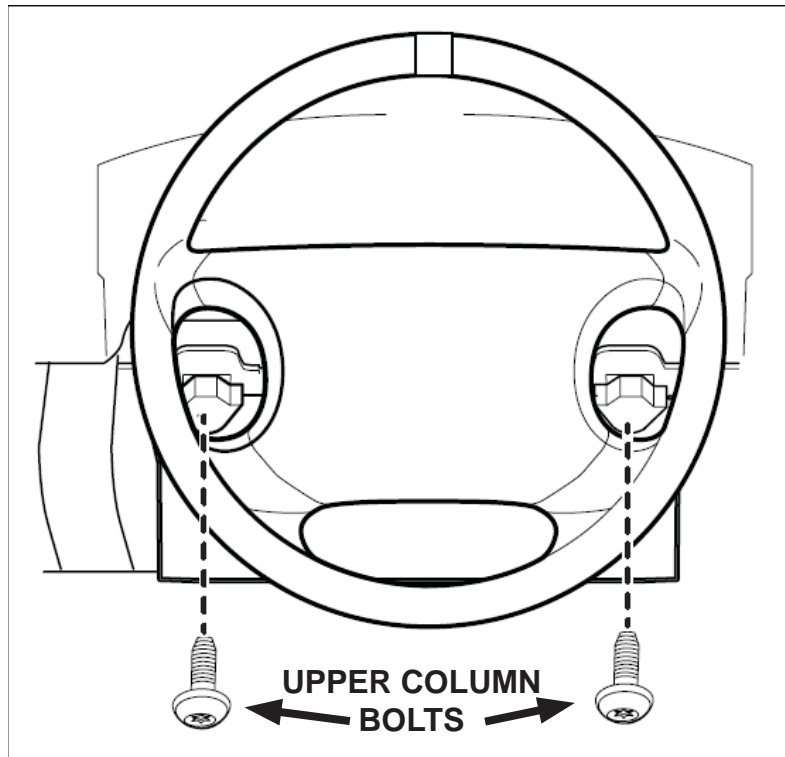

FIGURE 8
12. Remove and discard the two upper column bolts. See Figure 8.